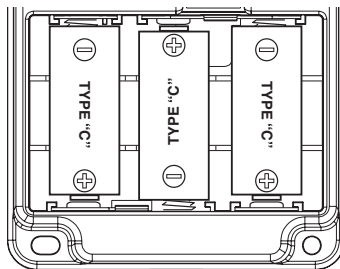

Figure 4
1. If chime is not connected to transformer wires then install 3 alkaline “C” batteries. Make sure batteries are oriented properly (see Figure 4).